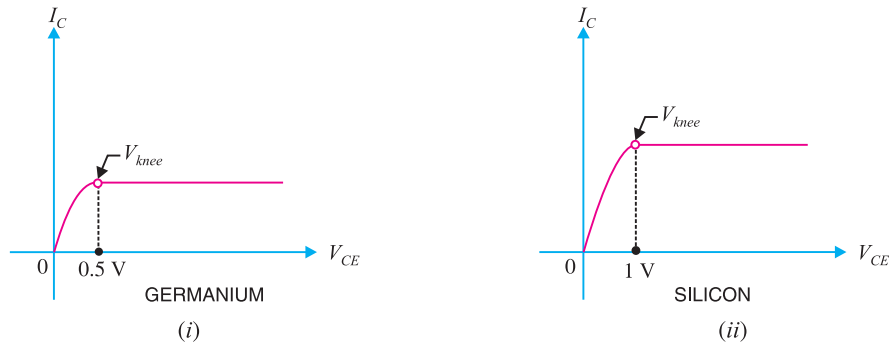

Fig. 9.4
**(iii) Proper minimum  $V_{CE}$  at any instant.** For faithful amplification, the collector-emitter voltage  $V_{CE}$  should not fall below 0.5V for Ge transistors and 1V for silicon transistors. This is called *knee voltage* (See Fig. 9.4).